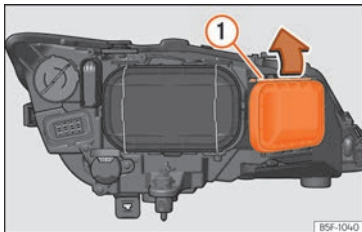

Fig. 59 Main beam headlight bulb.
- Move the loop »» Fig. 59 ① in the direction of the arrow and remove the cover.